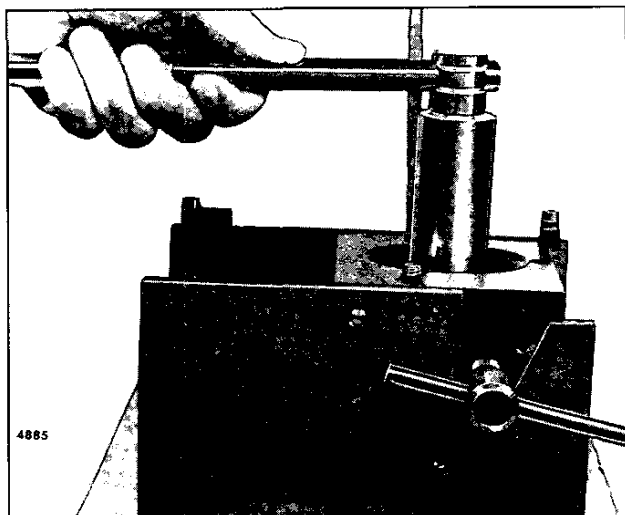

Fig. 13 – Removing Injector Nut Using Tool J 4983-01
4. Using socket J 4983-01, loosen the nut on the injector body (Fig. 13).